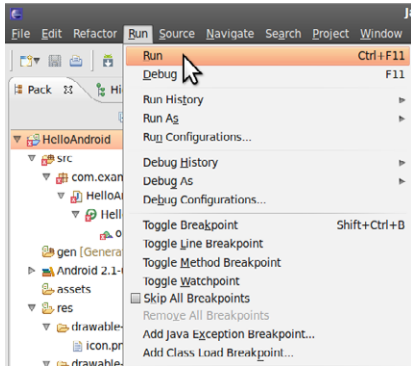

Figure 6-16. Running the project
8. Run the program by clicking the green Play button in the toolbar or by choosing Run→Run (Ctrl+F11), as shown in Figure 6-16.